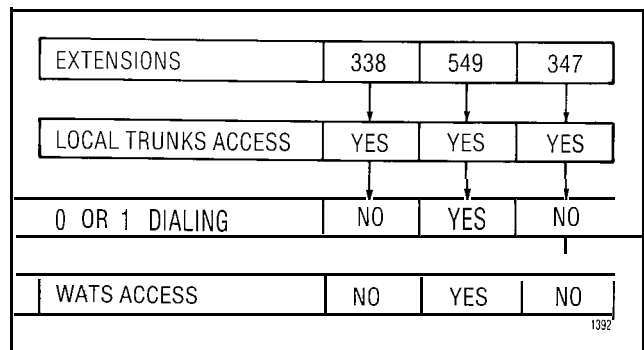

Fig. 5-3 O/I, WATS, Toll Restriction
the attendant or will receive re-order tone. (Fig. 5-3)
5.09 In the examples shown in Figs. 5-3 and 5-2 extension 549 is the only extension which will be permitted to dial a long distance code or access a WATS line. Extension's 338 and 347 will be restricted to local calls only unless the attendant makes a long distance call and connects the extension to that trunk. Obviously the efficiency of such a system is dubious at the best of times. A toll control based upon the digits or sequence of digits would be preferable to the two outlined situations of 5.07 and 5.08.